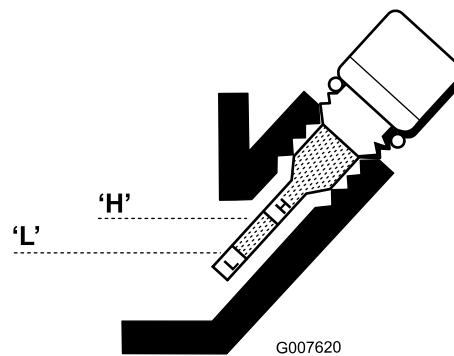

Figure 22
5. If the level is low, add only enough oil to raise the level until it is between the "H" and "L" marks on the gauge (Figure 22). **Do not overfill.**